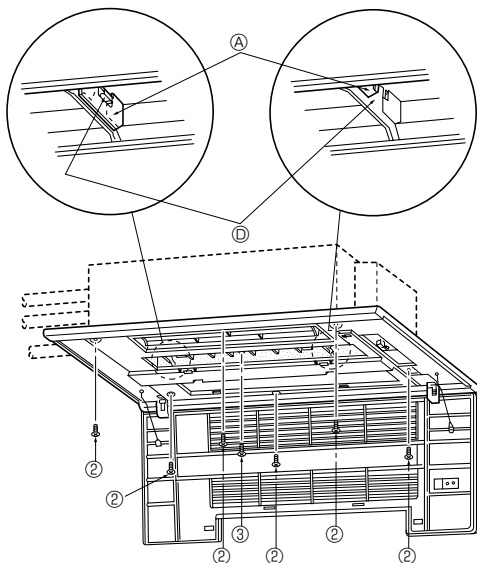
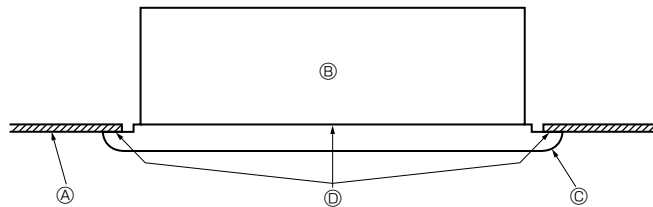

Fig. 5-5
Fig. 5-6
- Adjust the front panel so that it fits properly in the angle between the ceiling and the wall, and install the securing bolts ② (supplied with this grille) in their four places at left and right, leaving them slightly loose. (Fig. 5-5)
- Next tighten the securing bolts ② and securing screws ③ in the centre three places.
- Finally tighten the securing bolts ② in the four places at left and right.
- At this point, make sure there are no gaps between the indoor unit and the front panel, and between the front panel and the ceiling surface. If there are gaps, the wind may come in and it may cause water to drip (Fig. 5-6).
- * Tighten the securing bolts ② and securing screws ③ completely.
[Fig. 5-5]
5.4. Checks after installing (Fig. 5-6)